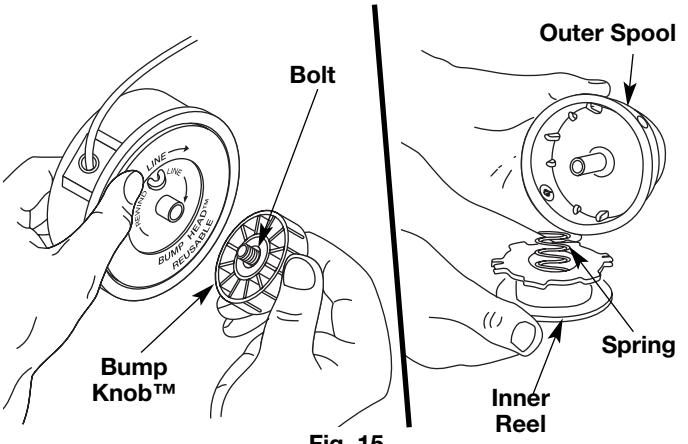

Fig. 15
1. Hold the outer spool with one hand and unscrew the Bump Knob counterclockwise (Fig. 15). Inspect the bolt inside the bump knob to make sure it moves freely. Replace the bump knob if damaged.
2. Remove the inner reel from outer spool (Fig. 15).
3. Remove spring from the inner reel (Fig. 15).
1. Hold the outer spool with one hand and unscrew the bump knob counterclockwise. Inspect the bolt inside the bump knob to make sure it moves freely. Replace the bump knob if damaged (Fig. 15).
2. Remove the old inner reel from the outer spool (Fig. 15).
3. Remove the spring from the old inner reel (Fig. 15).